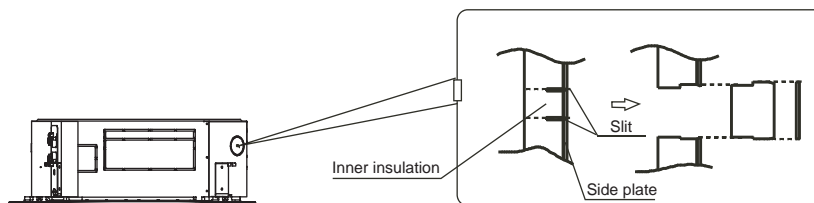

Fig.5-4
- Cut the inner insulation of the hole portion with a cutter. (refer to fig.5-4)